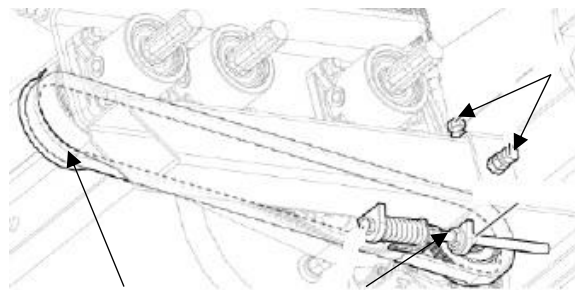

Figure 50
2. Loosen the lock nuts at the front of the GT case and remove the adjusting bolt under the left-hand GT case. Figure 50